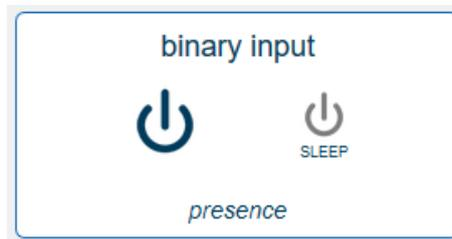

Figure 4.9 Presence.
- **Binary input for presence active, but sleep mode inactive:** When presence is active, but sleep mode is not active. The binary input will work as usual with a presence sensor connected to it (See Figure 4.9). More information about the presence function can be found in Section 3.1 and Section 4.1.